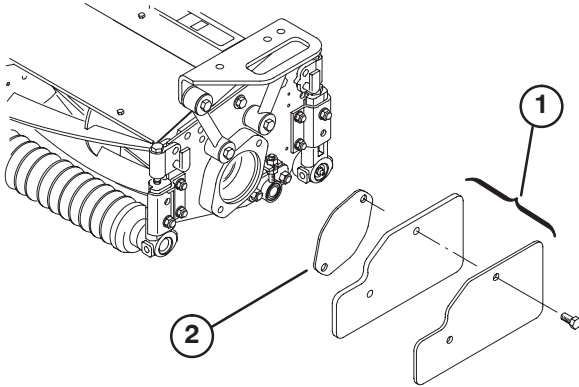
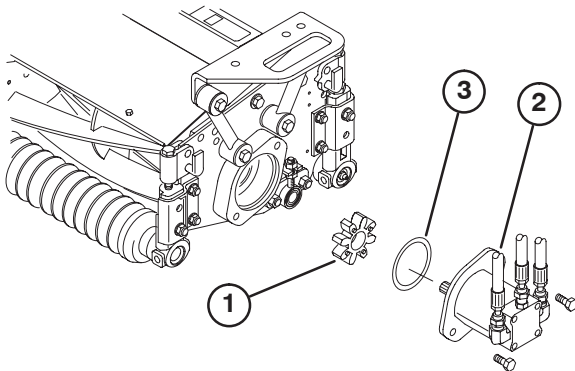

Figure 18
Figure 19
2. Remove weights and gasket (Fig. 18) from inside end of right hand cutting unit. Remove plug from bearing housing on outside end of right hand cutting unit and install weights and gasket. Locate spider coupling (Fig. 19) shipped in bearing housing.